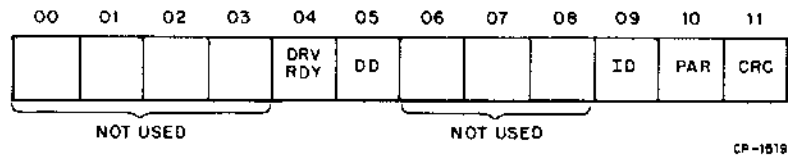

Figure 4-7 RXES Format (RX8E)
4.3.6 RX Error and Status (Figure 4-7)